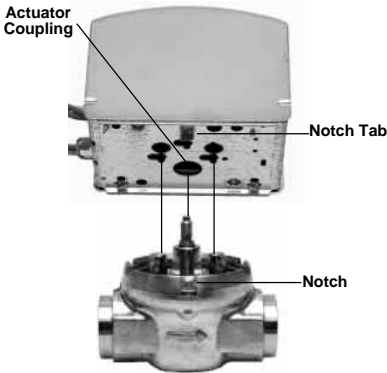

Fig. 5 - Installing Actuator
- Line up motor coupling to the parallel flat surfaces in double-D shaft of body and fit the actuator onto the valve body, ensuring that the shaft seats correctly. (See Fig. 5)